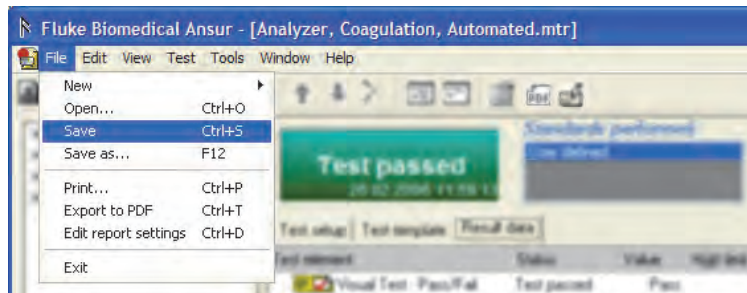

Figure 3-8. Saving a Test Record
- To select the location where the file is saved, click **File | Save** on the main menu as shown in Figure 3-8.